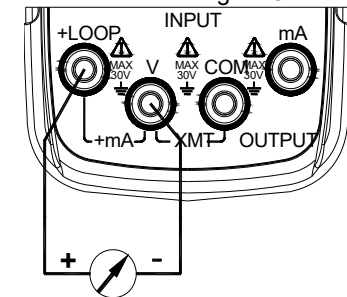

Figure 5-1
- 1) Insert one end of the test leads to the + mA – output jack (OUTPUT) of the Instrument and connect the other end with the input of the user's Instrument as shown in Figure 5-1:
- 1) Connect to the Instrument as shown in Figure 5-1;
- 3) Press the key (25%/RAMP) and the symbols 'F' and '▲' will appear;
- 6) Repress the key (25%/RAMP) so as to exit the step current output.
- 3) Press the key (100%/START) and the symbols 'F', '▲', '0', 'FS' will appear in the display;
- 5) Repress the key (100%/START) so as to exit the step current output.
- 1) Connect as shown in Figure 5-1;
- 4) Repress the key (25%/RAMP) again so as to change the type of the output ramp, which finds itself in the lower left of the LCD. The type appears with 'A S', 'F', 'A F', in proper order. These symbols denote a low speed ramp and a high speed ramp respectively. The former is set to a cycle up to 60S and the latter is up to 30S, while the auto-stair step ramp pauses 5 seconds at each step;
- 5) Press the key (100%/START) to start the output of the set waveform when the symbol 'ON' appears. Now repress the key (100%/START) again and the output will pause on a current value and the symbol 'OFF' will appear. Then press the same key again and the output will continue to do the set steps from the pause value. When the symbol 'OFF' appears, press any one of the keys (◀), (▶), (▲), (▼) so as to bring the output back to the 0%. Then the value of 4mA appears in the display.